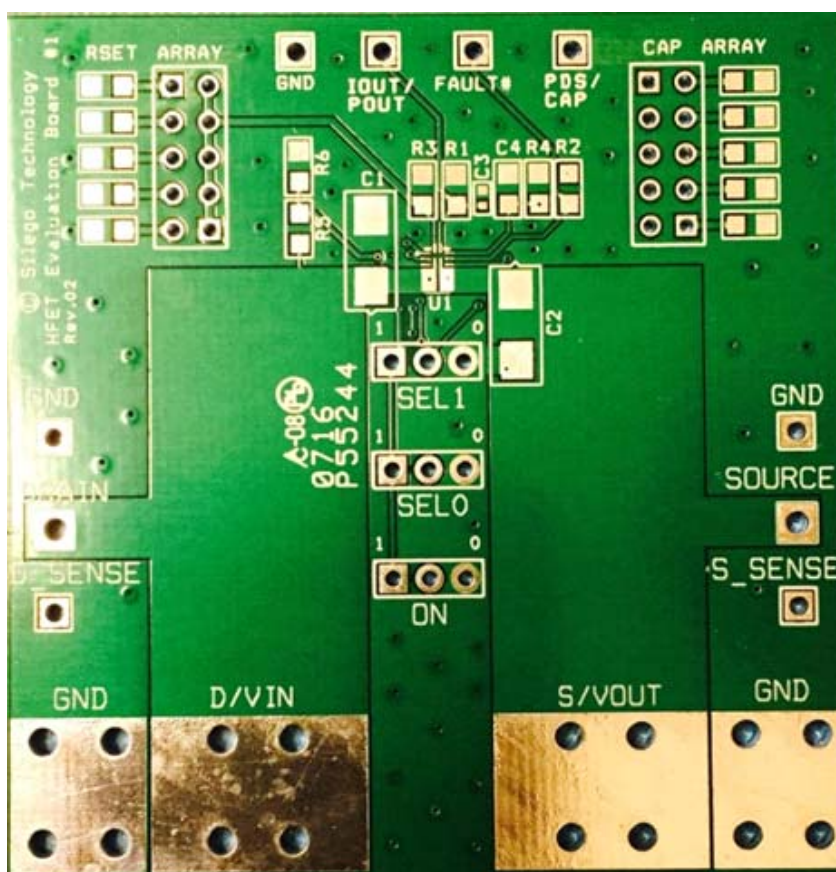

Figure 10. SLG59H1126V Evaluation Board
1. Since the VIN and VOUT pins dissipate most of the heat generated during high-load current operation, it is highly recommended to make power traces as short, direct, and wide as possible. A good practice is to make power traces with absolute minimum widths of 15 mils (0.381 mm) per Ampere. A representative layout, shown in Figure 10, illustrates proper techniques for heat to transfer as efficiently as possible out of the device;
A HFET1 Evaluation Board for SLG59H1126V is designed according to the statements above and is illustrated on Figure 10. Please note that evaluation board has D_Sense and S_Sense pads. They cannot carry high currents and dedicated only for RDS_{ON} evaluation.